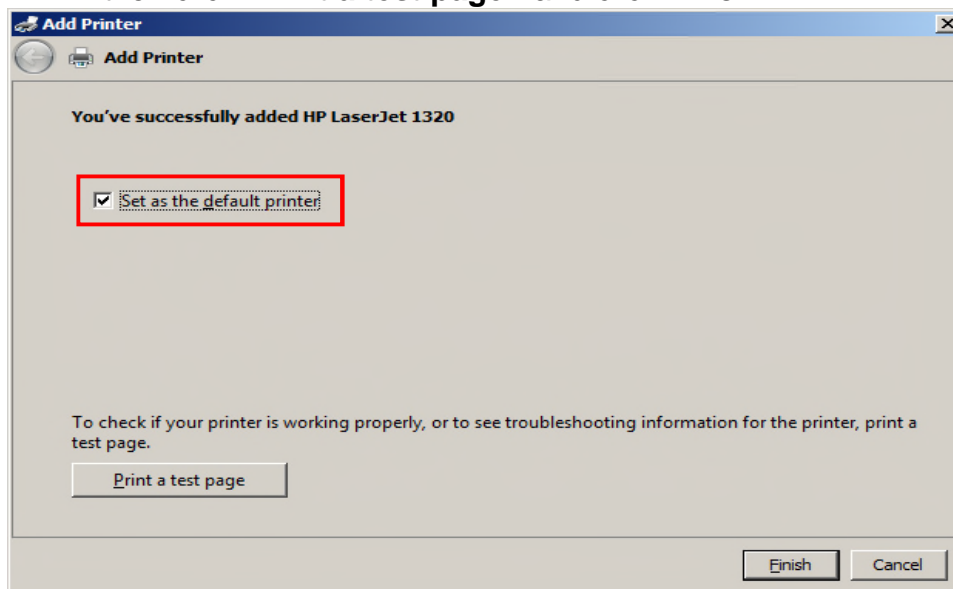

Figure 10.26 – Print a Test Page
- 6) When the add a printer dialogue box pop up select “**Add a network, wireless or Bluetooth printer**”. (figure 10.26).